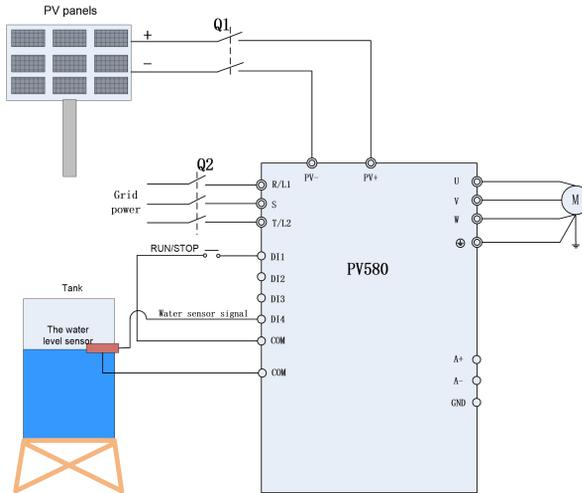

Figure 4-1 PV580 Cell Power Supply Wiring Diagram
1. Wiring drawings of below inverters shown as Figure 4-1: PV580 series.